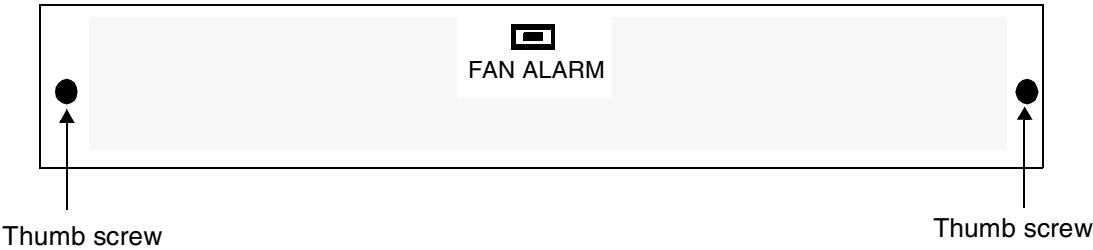

Figure 3: Fan Unit – Front View
1. Unscrew the thumb screws located on the right and left sides of the fan unit. Refer to *Figure 3*.